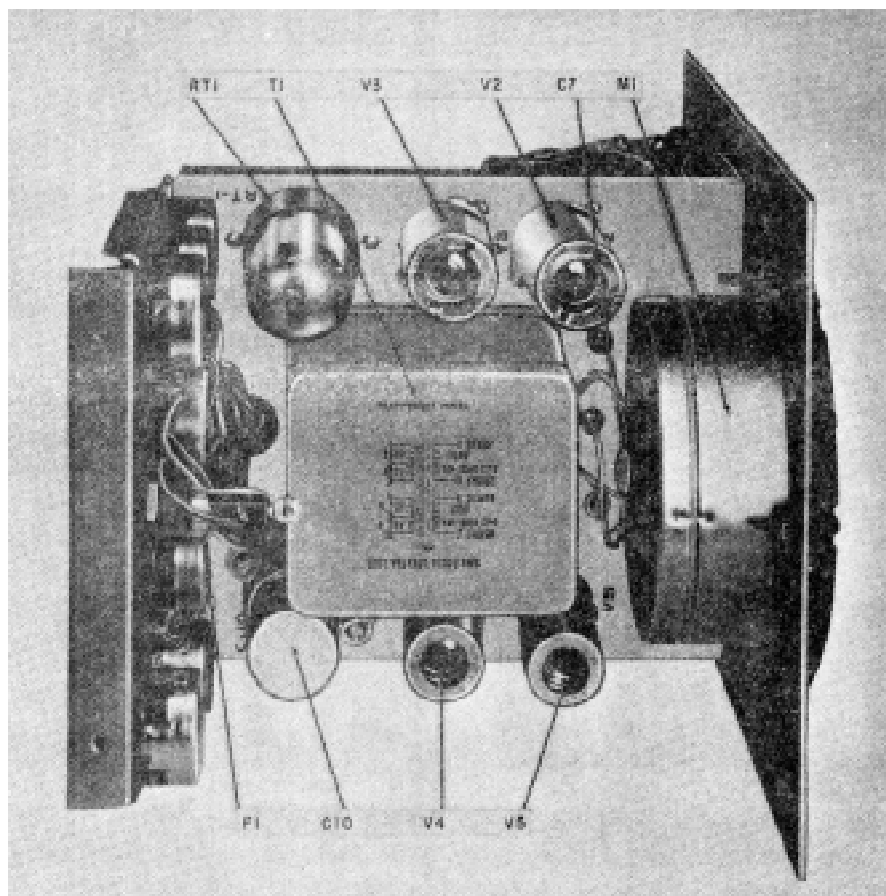

Figure 6-1. Multimeters ME-26B/U, ME-26CIU, and ME26DIU chassis, top view.
(3) *Troubleshooting chart.* The trouble symptoms listed in the chart (para 6-4b) will aid in isolating the trouble to a component part. Component location is shown in figures 6-1 through 6-7.
(2) If the resistance is approximately half of the normal indication (4,900 ohms), check for shorted capacitor C10 (fig. 6-1 and 6-8).
*a. General.* In the troubleshooting chart (b below), procedures are given for localizing and isolating troubles to a stage or part. Parts locations are indicated in figures 6-1 through 6-7. Voltage and resistance measurements are shown in figures 6-8 through 6-11, overall schematic diagrams are shown in figures 9-3 and 9-4. When trouble has been localized to a particular stage, use voltage and resistance measurements to isolate trouble to a particular part.
t. Capacitor C7 or C8 shorted.	t. Replace defective capacitor (fig 6-1 and 6-2, or 6-3 and 6-4).
j. Capacitor C10 defective.	j. Replace capacitor C10 (fig 6-1 or 6-3).
m. Meter M1 defective.	m. Replace meter M1 (fig. 6-1 or 6-3).